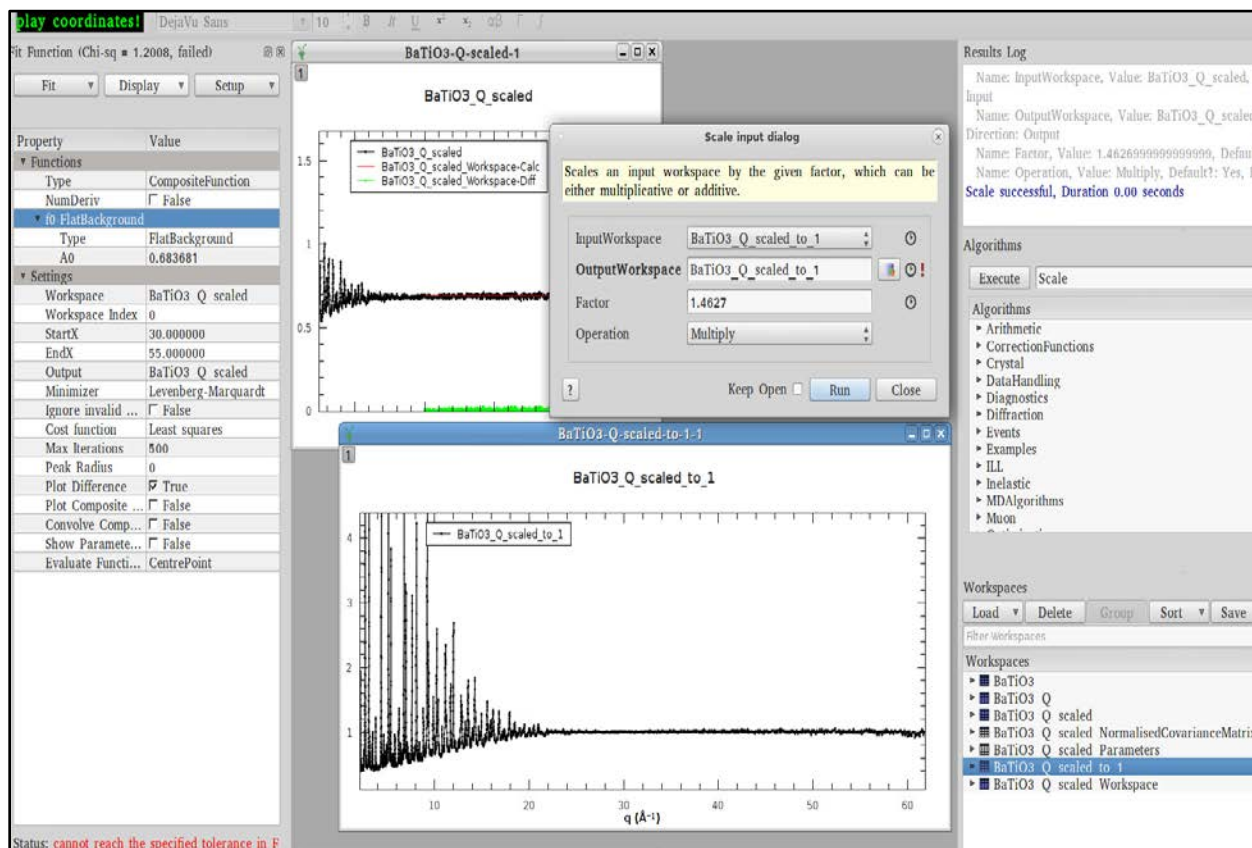

Figure 9. Scaling the data according to the background fit.
6. On the Fit Function sidebar, under f0-FlatBackground, record the fitted value A0 (Figure 9).
7. Execute the “Scale” algorithm (Figure 9) to divide the data by A0 (by multiplying by the inverse). The InputWorkspace should be the converted workspace from step 2 above. Give the OutputWorkspace a different name if you do not wish to overwrite. The Factor should be a value equal to 1/A0 and the Operation should be **Multiply**. This should result in a spectrum that goes to a value of 1 in the range of 30-50 Å-1.